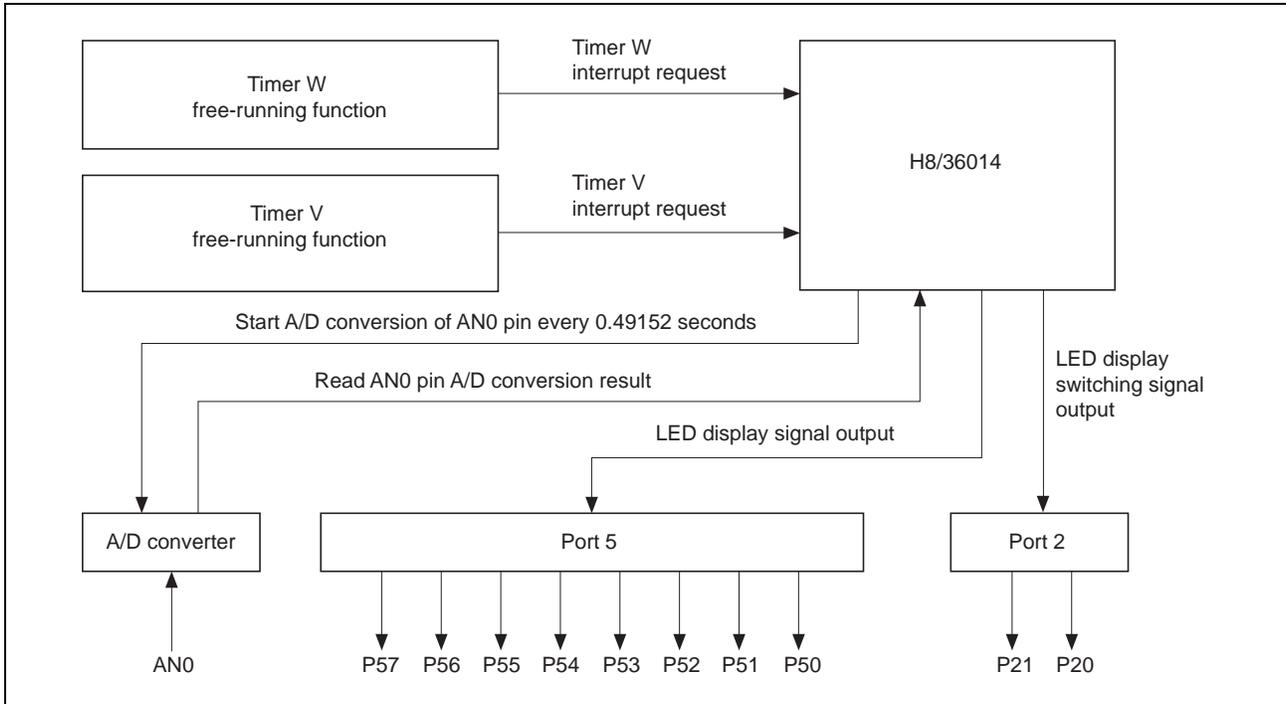

Figure 4 Block Diagram of Functions Used
(1) A block diagram of the H8/36014 functions used in this sample task is shown in figure 4, and the assignment of functions is shown in table 1.